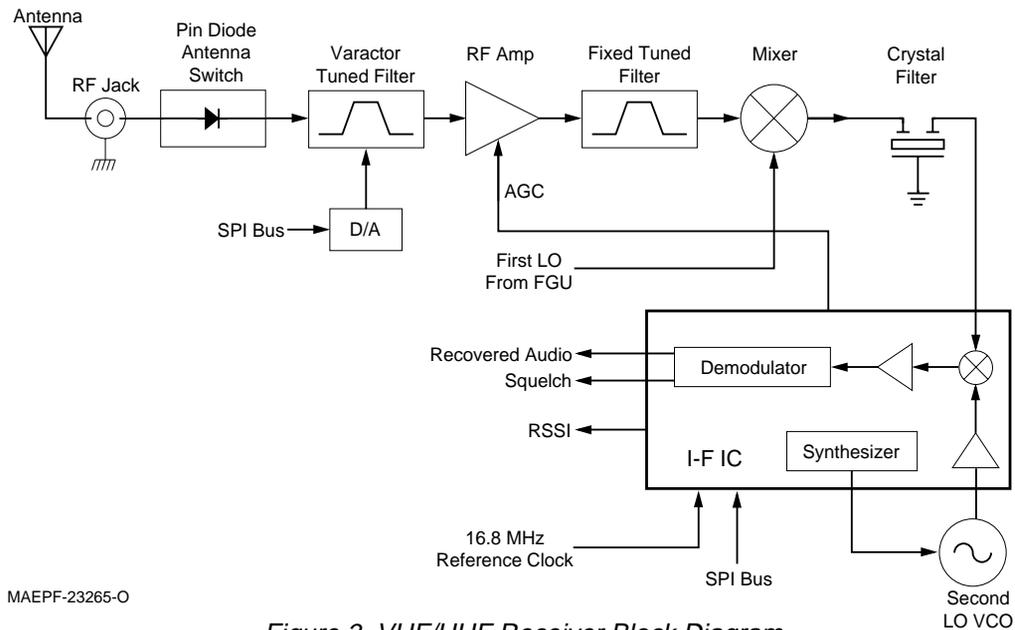

Figure 3. VHF/UHF Receiver Block Diagram
#### C. Receiver Front End (See Figure 3)
**D. Receiver Back End** (See Figure 3)